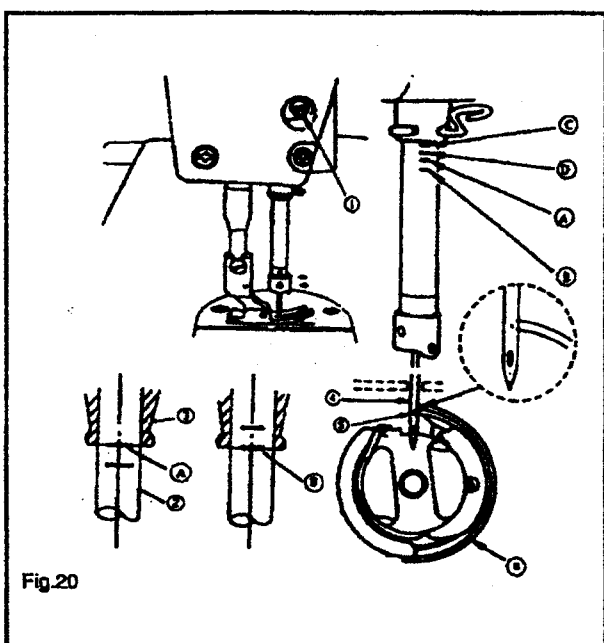

Fig.20
14.NEEDLE-TO-HOOK RELATIONSHIP (Fig.20)